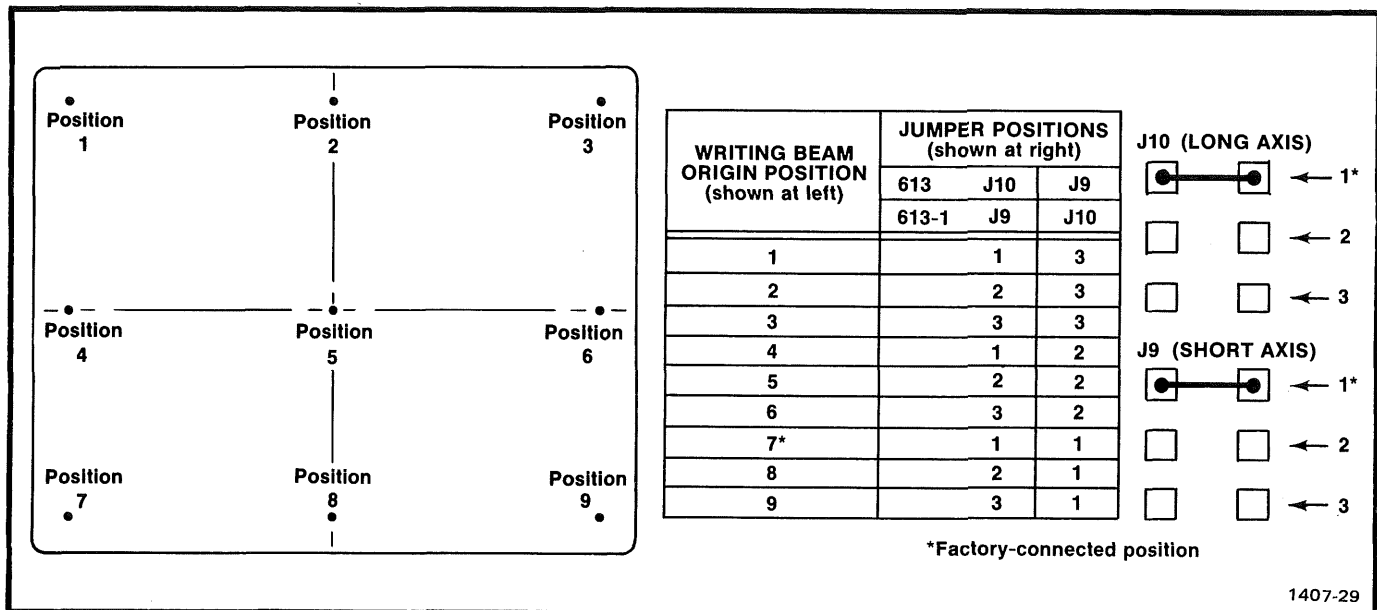

Fig. 1-5. Writing beam origin positions and the related jumper positions on the Deflection Amplifier board.
**ORIGIN LOCATION JUMPERS J9-J10.** These two "harmonica" connectors select the undeflected horizontal and vertical position of the writing beam (see Fig. 1-5).